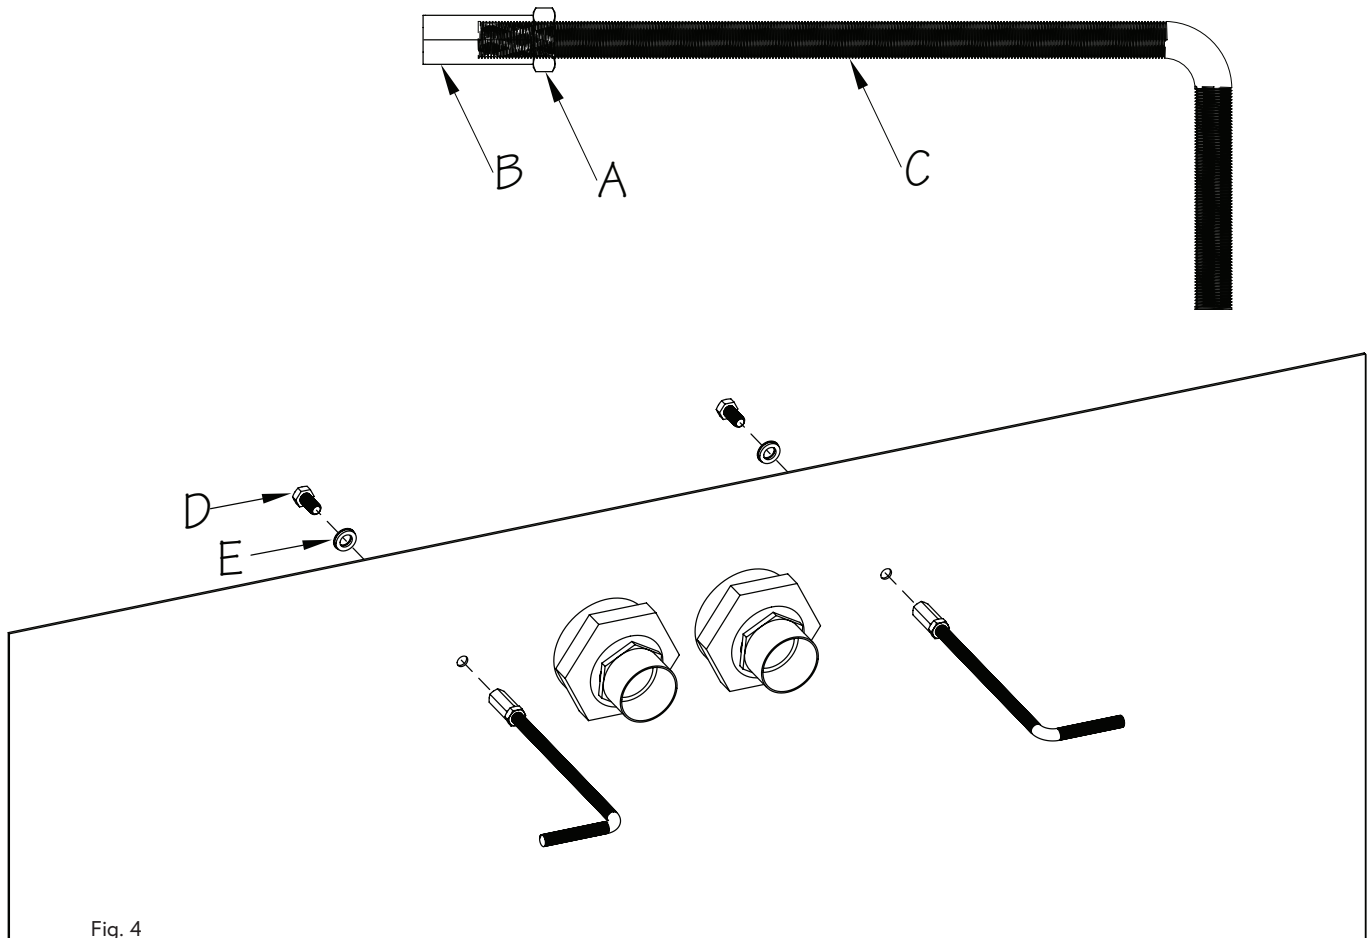

Fig. 4
3. Thread the Jam Nut (A) and Coupler (B) onto the Threaded Rod (C) so that the rod is inserted halfway into the Coupler. Align the Coupler and Threaded Rod with the mounting hole drilled into the pool wall. On the inside of the pool, insert the Sacrificial Bolt (D) through the hole and thread into the Coupler, making sure there is a Sacrificial Washer (E) between the bolt and pool wall (Fig. 4)